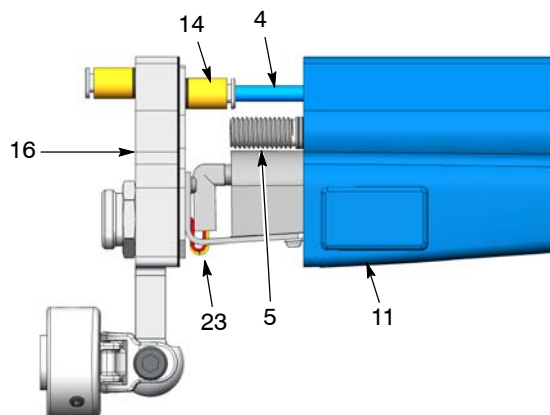

Figure 24 Pulling the Heat Sink away from the Housing
7. See Figure 24. Pull the heat sink (16) away from the housing (11) just enough to disconnect the air tubing (4) from the connector (14).
5. See Figure 24. Connect the air tubing (4) to the connector (14), then push the heat sink (16) back up against the housing while fitting the powder tubing channel (5) through the heat sink. Make sure the harness wires (23) are not pinched between the housing (11) and the heat sink.